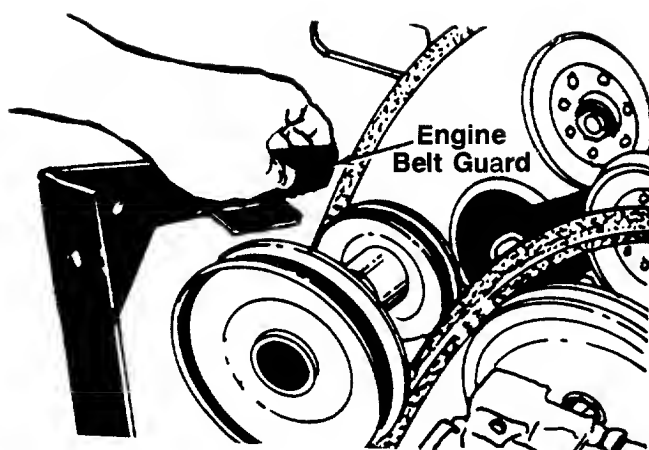

FIGURE 31.
7. Remove two hex bolts, nuts and lock washers from the engine pulley belt guard at rider frame to allow the engine pulley belt guard to drop down out of the way. See figure 31.